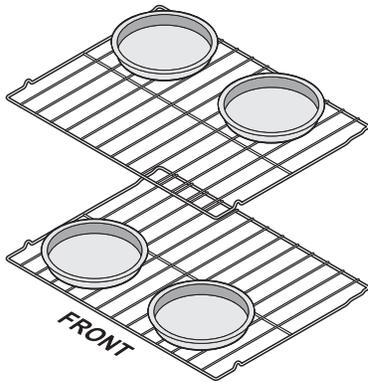
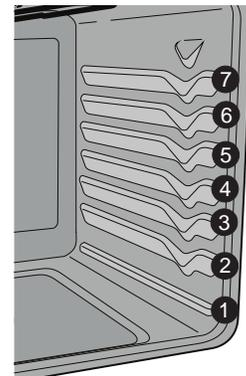

Figure 21: Pan positions two rack baking
Figure 22: Rack positions
- For best results when baking cakes using two oven racks, place racks in positions 3 and 5 (See Figure 22) position cookware as shown in Figure 21.